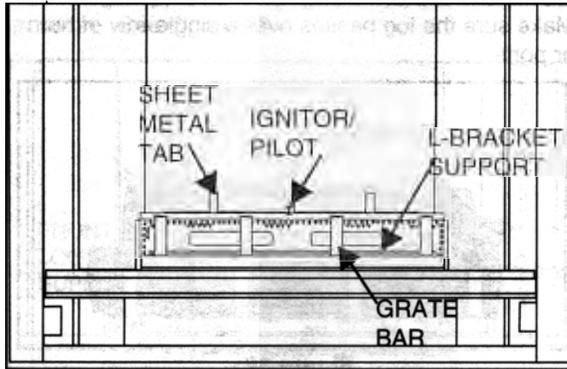
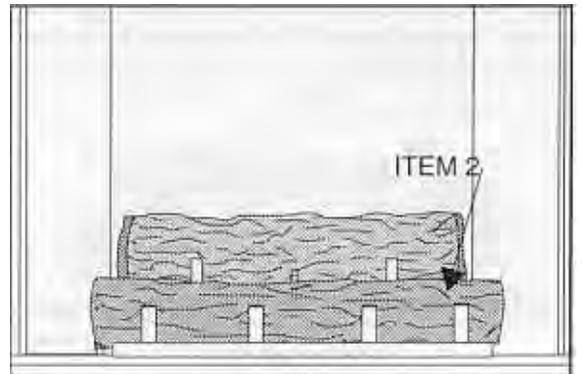

Figure 38
Figure 42
1. Make sure sheet metal tabs, located on the Back Log Support, are upright, if not, bend to the up position. See Figure 38.
3. See Figure 42. Place the Front Log (Item 2) on the L-Bracket support with the bow up. Position it so that it is balanced and is leaning forward slightly. (See Figures 38 & 40.)